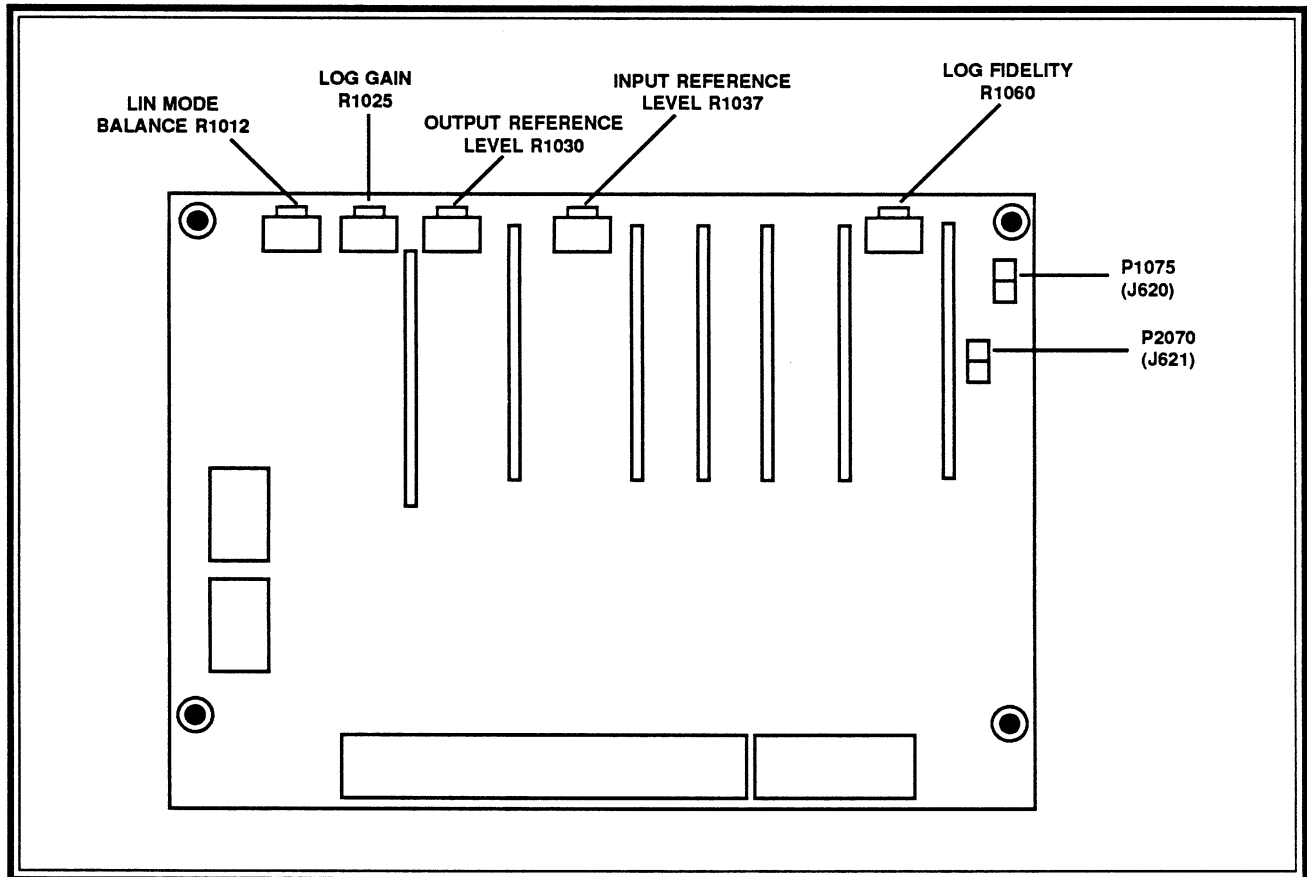

Figure 4. Log and Video Amplifier test point and adjustment locations.
j. Adjust Input Reference Level, R1037 (Figure 4) for minimum amplitude change between the 10 dB/DIV and 2 dB/DIV displays while alternately switching the VERTICAL DISPLAY between 10 dB/DIV and 2 dB/DIV.
u. Press LIN and adjust Lin Mode Balance, R1012 (Figure 4) for a full screen display. Amplitude of LIN, 2 dB/DIV, and 10 dB/DIV display should now be the same.